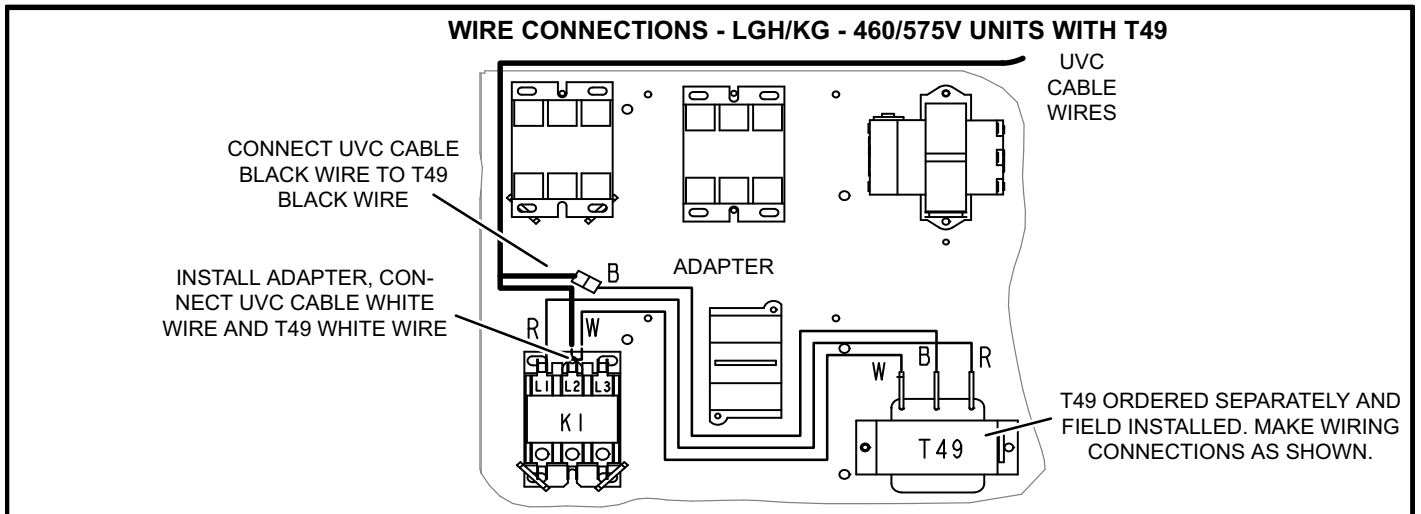

FIGURE 7
- Figure 7 - 460/575V LGH/LCH/KG/KC/KH with T49